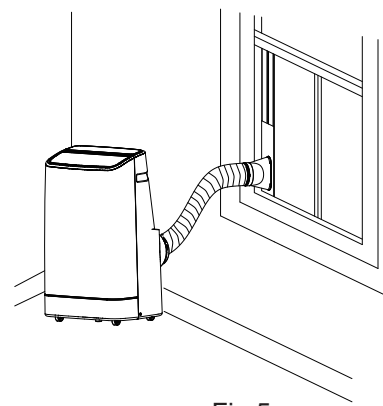
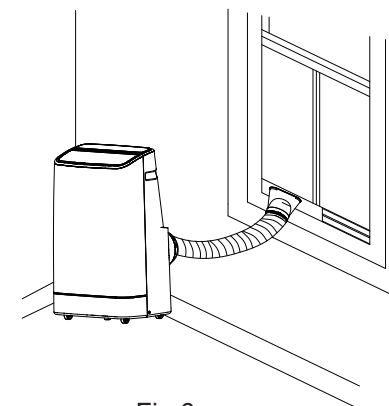

Fig.5
Fig.6
- 2) Elongate the exhaust pipe and snap the flat end of the exhaust pipe joints into the hole of the window sealing plate assembly (as shown in Fig.5 and Fig.6).